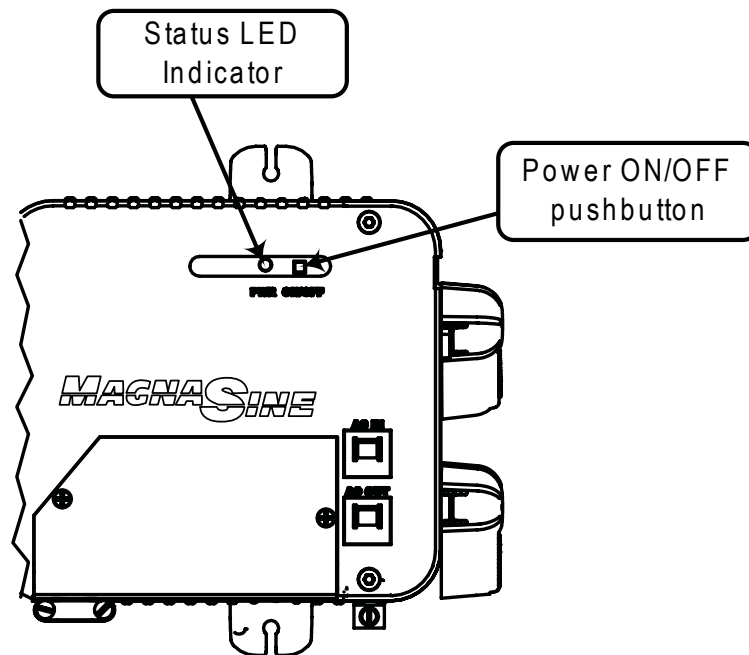

Figure 17, Resetting the Inverter
1. Press and hold the Power ON/OFF pushbutton for approximately 15 seconds, or until the status LED comes on and flashes rapidly (see Figure 17).